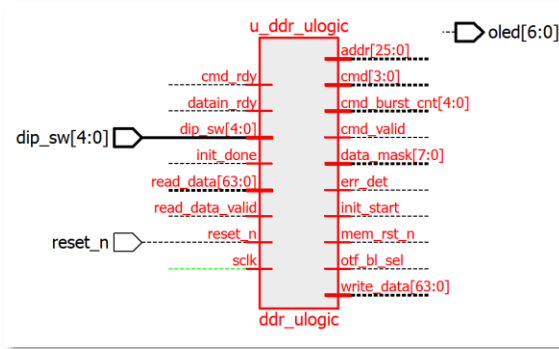

Figure 3.7. Filtered Instance with Signal Paths
- Figure 3.7 shows the view after selecting **Isolate Path**. The dotted line indicates that the net has other connected instances or components. To see the connected components, double-click on the dotted nets.